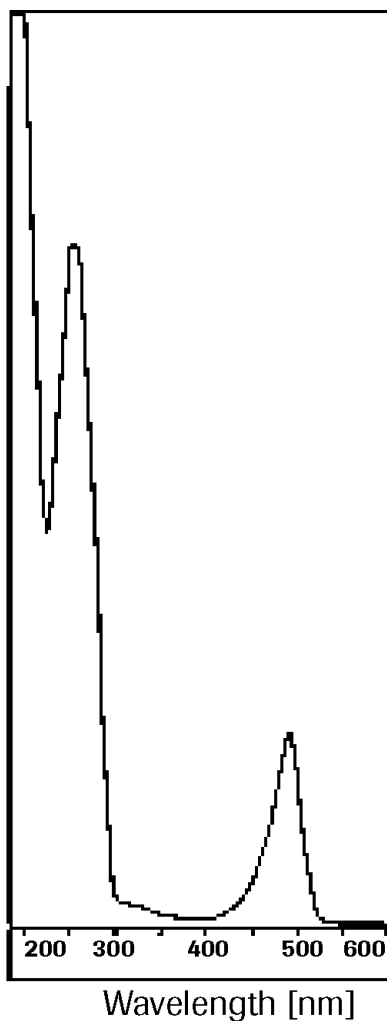

Fig. 2: UV/VIS absorption spectrum
- 4 Run a UV/VIS absorption spectrum in the 200 – 600 nm range. The resulting spectrum corresponds to Figure 2.